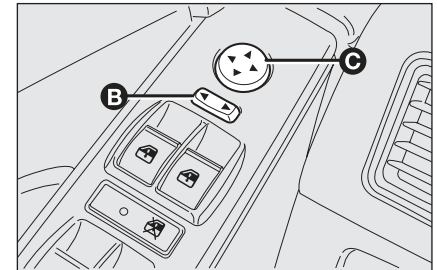

fig. 54
- use switch **B**-**fig. 54** to select the mirror required (left or right);